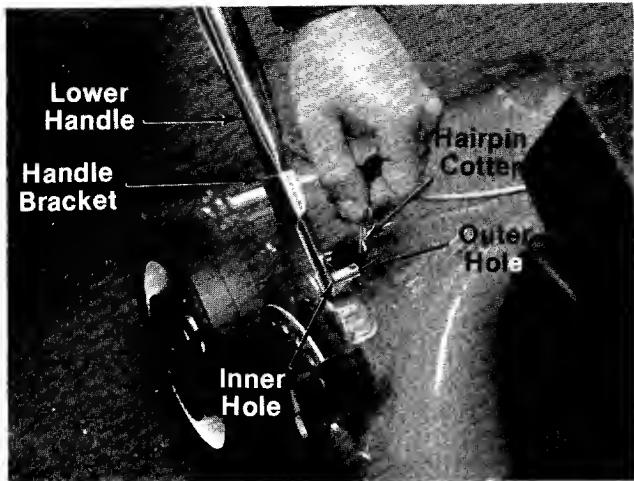

FIGURE 1.
2. Fasten lower handle in position over weld pins in handle mount brackets on deck. Secure with hairpin coppers in inner hole on weld pin. See figure 1.